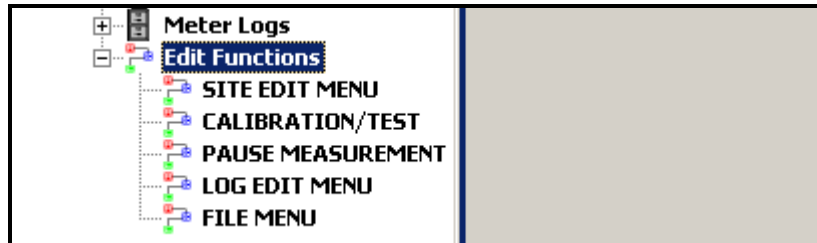
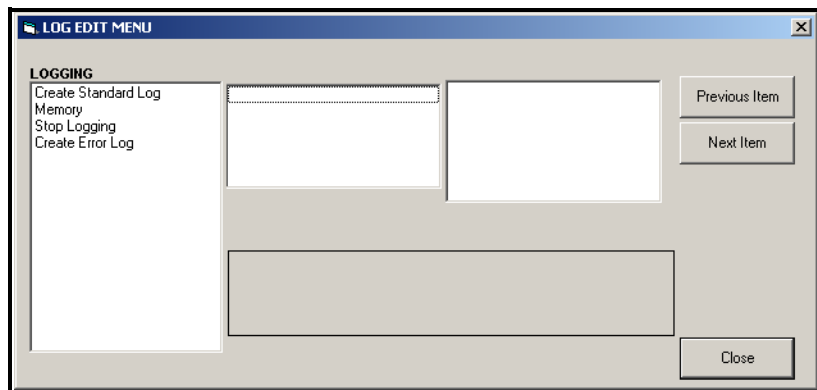

Figure 3-1: Edit Functions Menu for XGM868i with Logging Card
Figure 3-2: Log Edit Menu Window
1. From the *New Meter Browser* in PanaView, expand the network tree and open the *Edit Functions* option (described on page C-6 of Appendix C, *Programming the XGM868i via PanaView*). The menu will appear similar to Figure 3-1 below.
2. Double-click on the *Log Edit Menu*, as shown in Figure 3-1 above. The window appears similar to Figure 3-2 below.